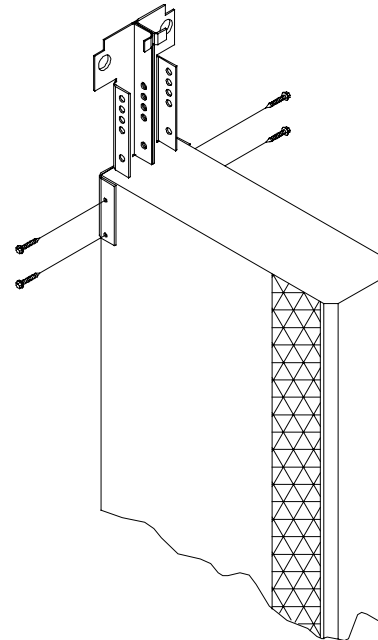

FIGURE 4
2. Follow step 1 from the standard installation procedure for the side frame that is common except install the common member header mounting bracket. (See Figure 4) Install screws on both sides of the frame.